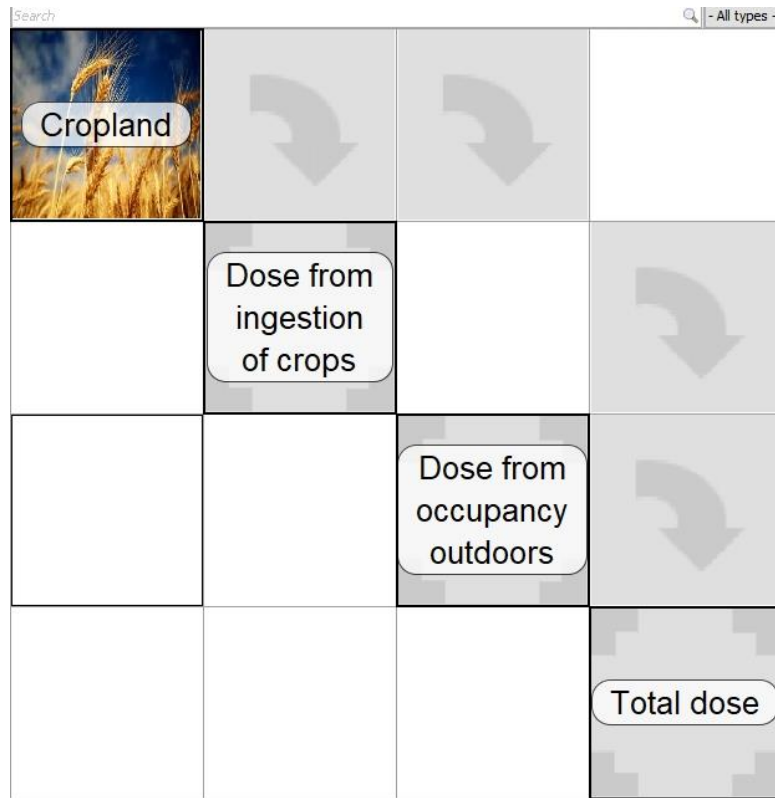
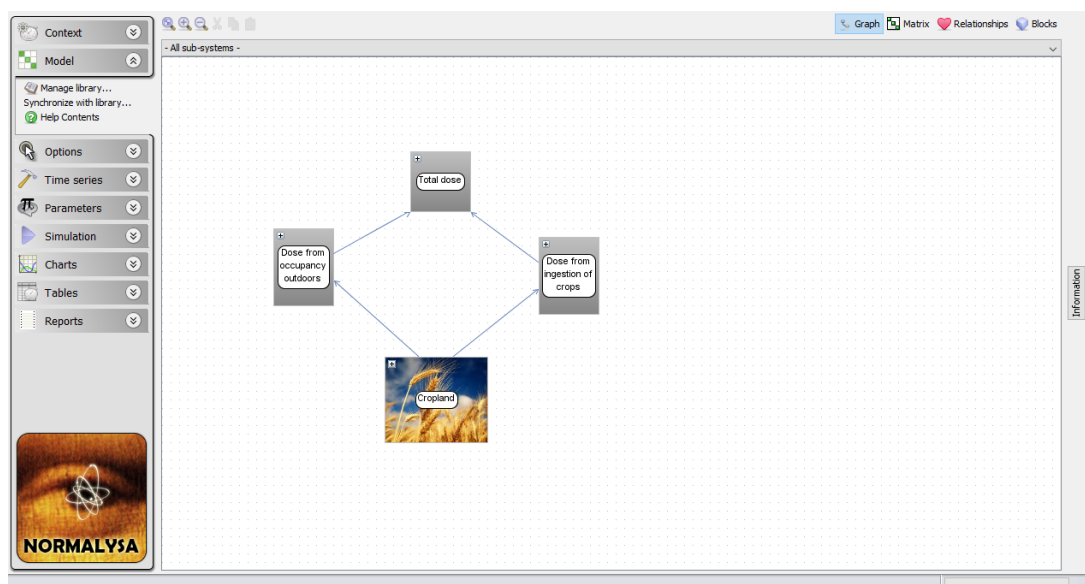

FIG 10. Full model for Exercise 4 including main modules and “connector” in ‘Matrix’ view.
FIG 12. NORMALYSA model for Exercise 1a in the ‘Graph’ view.
2. Repeat the process of connecting modules until your model will look as in FIG 10.
Before leaving the ‘Model’ window, you can have a look at the NORMALYSA model that you have built in the ‘Matrix’ view (see FIG 10) and ‘Graph’ view (see FIG 12).